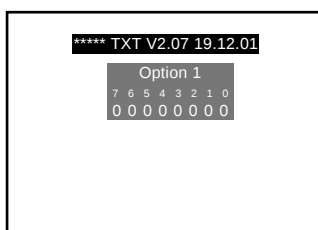

Fig. 1
4. Press the STATUS button on the remote control. The Option 1 setting screen will appear as shown Fig. 1.